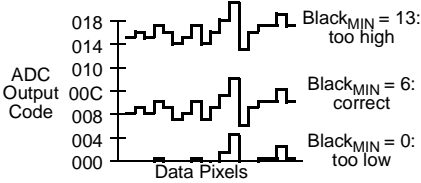

Figure 9: Setting the Static Offset DACs
- Reduce the Offset DAC value for each color so that the minimum black pixel is close to 0, but still greater than 0 (Figure 9). One offset DAC code = -4.2 ADC LSBs, so change the DAC code to (31 - Black_{MIN}/4.2).